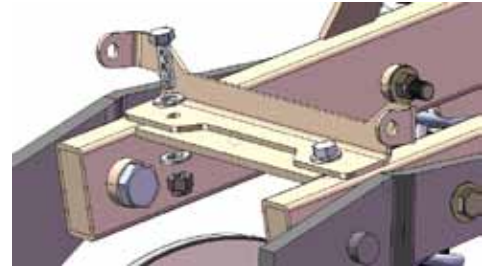

Figure 24
- b. Install rider seat bracket to top frame as shown with supplied hardware. Figure 24